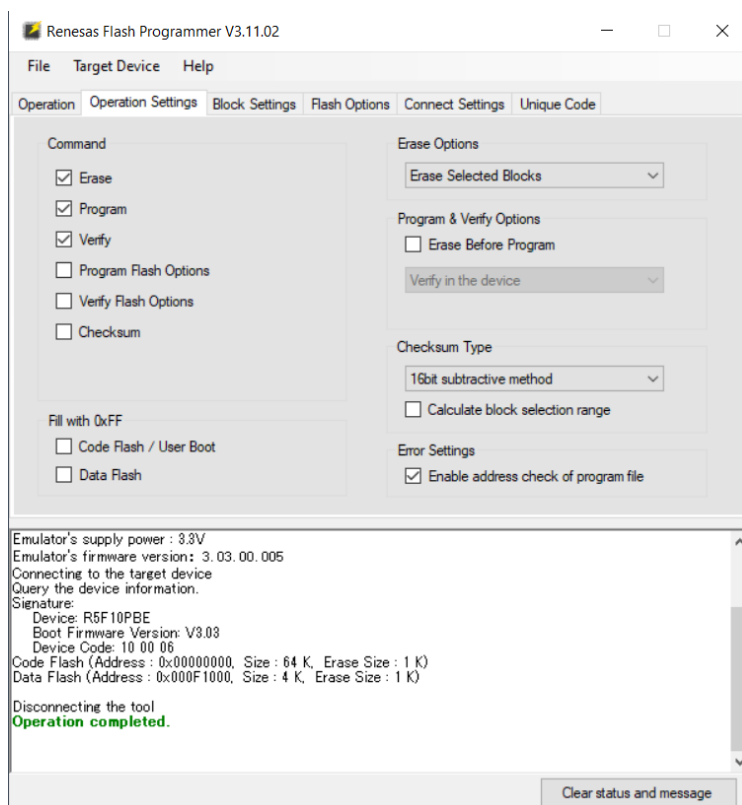

Figure 8. Operation Setting Tab
10. Click on the “Operation Settings” tab (see Figure 8). Check the *Erase*, *Program* and *Verify* boxes.